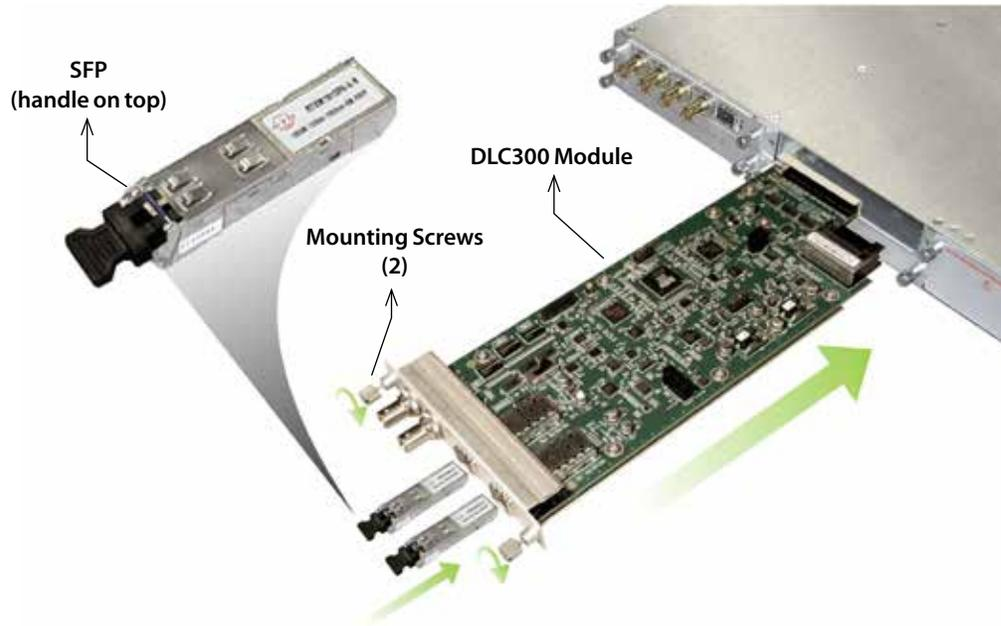

Figure 5. DLC300 Module and SFP Installation
5. Install the SFPs into the DLC300 (handle on top as shown in Figure 5). Push each SFP into the sockets located on the right side of the function module until they are firmly seated into the socket. If you are installing only one SFP, you can install it in either the primary (PRI) or secondary (SEC) SFP socket.